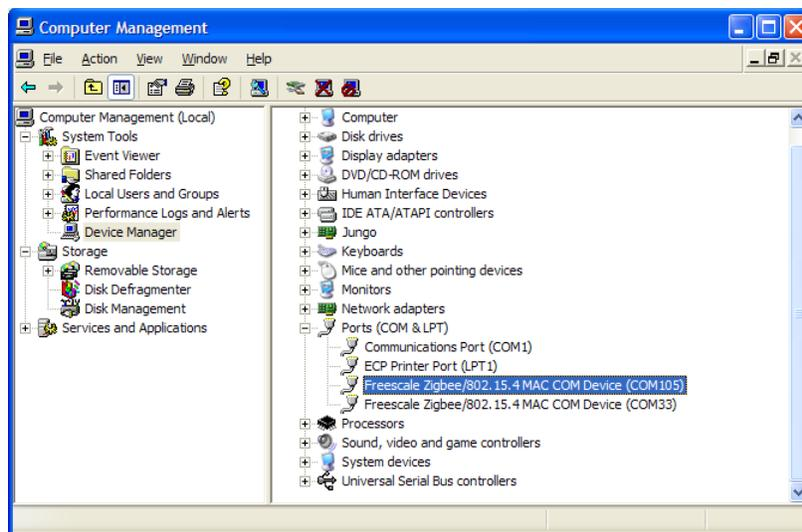

Figure 3-1. COM Ports in Device Manager
2. To determine the actual COM ports in use, open the Windows Device Manager, and under the Ports (COM & LPT) option, look for two devices labeled either “Freescale ZigBee/802.15.4 MAC COM Device” or “USB Serial Port”, as shown in Figure 3-1. (The COM ports shown in Figure 3-1 are different on every PC).